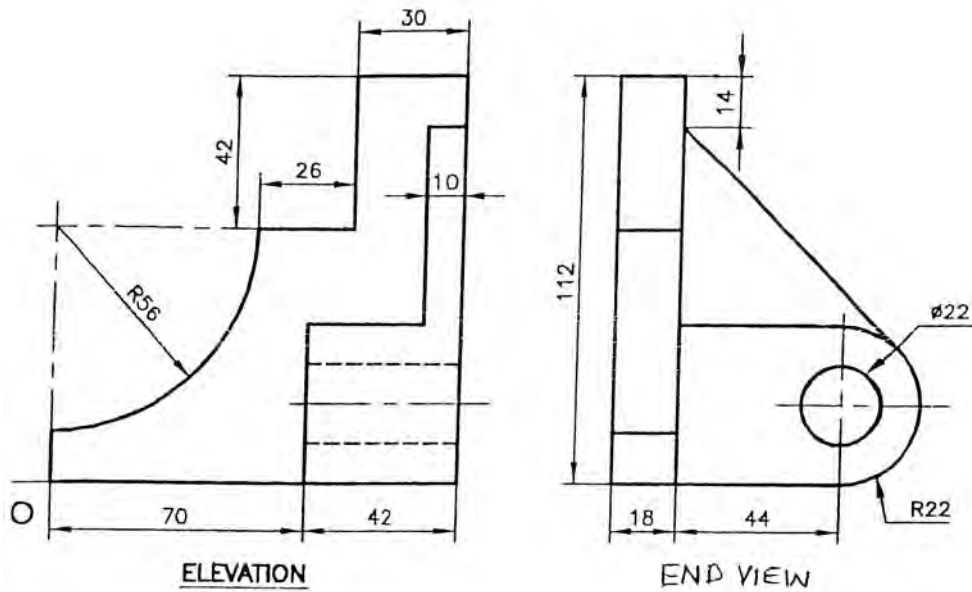

Fig. 5
7. The Figure 5 shows elevation and end view of a machine part. Draw its isometric view by using natural scale and show overall dimensions. 20